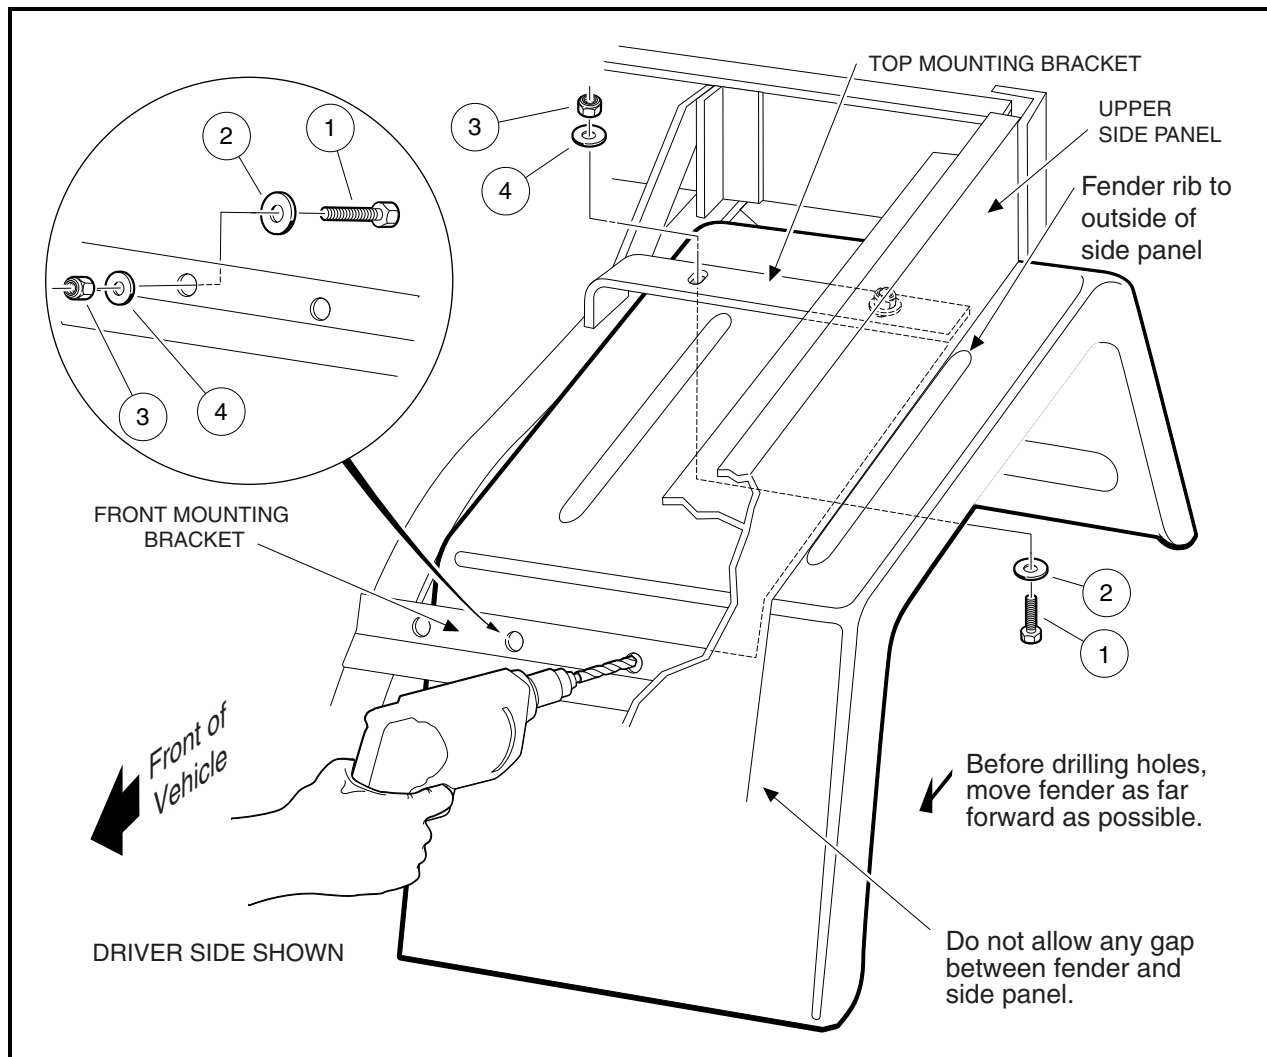

Figure 22 Drill Additional Mounting Holes
4. Make sure fender is correctly aligned in the vehicle by placing the outer fender rib to the outside of the upper side panel, and as far forward as possible, leaving no gap between the fender and side panel (**Figure 22**).
5. Drill three 5/16 inch holes through the fender: Two through the outside holes in the front mounting bracket, and one through the slotted hole in the top mounting bracket (**Figure 22**).
6. Loosely install bolts (1), large flat washers (2), small flat washers (4), and locknuts (3) in the front mounting bracket holes.
7. Install bolt (1), large flat washer (2), small flat washer (4) and locknut (3) in the top mounting bracket hole as shown (**Figure 22**).